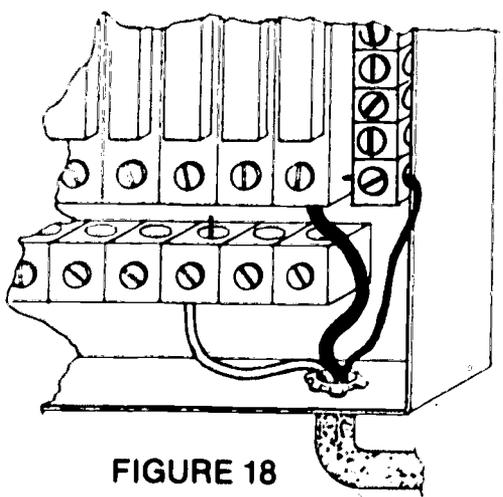

FIGURE 18
P. Connect ungrounded conductor to appropriate overcurrent device (Figure 18)